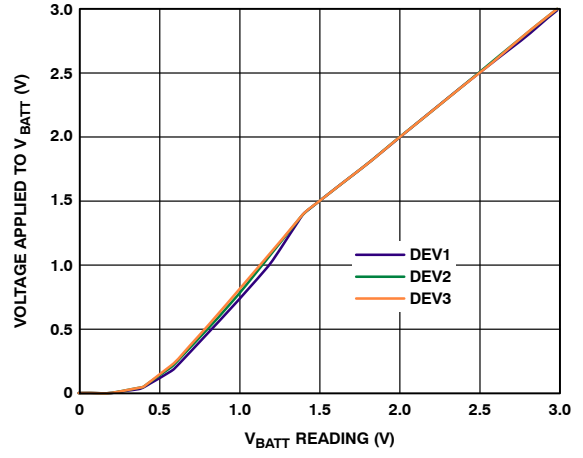

Figure 16. Applied Voltage vs. V_{BATT} Reading
- Note that this specification does not apply if Pin 26 ($V_{BATT} + 1.2\text{V}$) is being measured in single-channel mode. See Figure 16 in the Typical Performance Characteristics section for V_{BATT} accuracy.